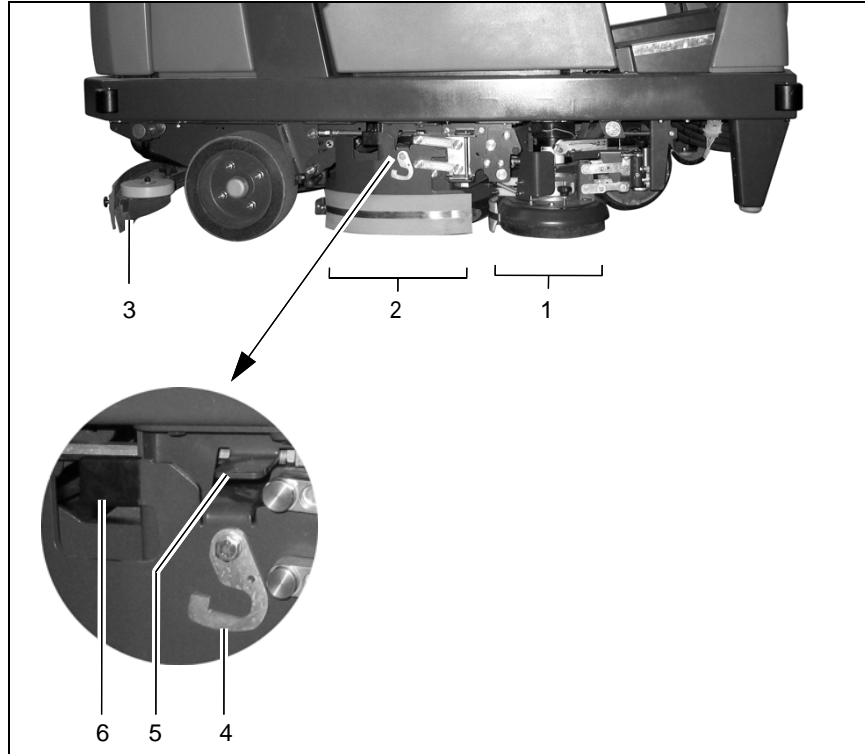

Fig. 11
3.1.1 Scrubbing unit (Fig. 11/2)
(Fig. 11/2)
The deflectors can be raised, if necessary. This is the case for basic cleaning, for example, where the floor only needs to be scrubbed when wet and the solution is not vacuumed up but allowed to soak in instead. To raise the deflector, take hold of the grip (Fig. 11/6), raise it and hook the locking hooks (Fig. 11/4) in the recesses in the grip above it (Fig. 11/5). Proceed in the same way on the other side of the side of the vehicle.
(Fig. 11/1)
(Fig. 11/3)